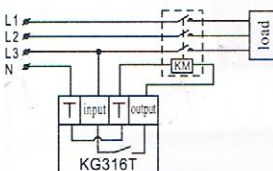

Figure 4 Three-phase working mode
a) If the control conductor's coil voltage is AC380V 50Hz, then the mode of connection is shown as in Figure4.